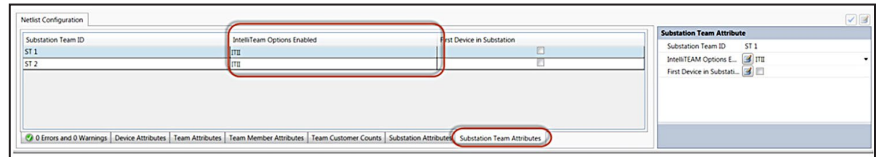

Figure 2. The Substation Team Attributes>IntelliTeam Options Enabled setting.
- STEP 4.** For the **IntelliTeam Options Enabled** setting, select the **ITII** option, as shown in Figure 2.